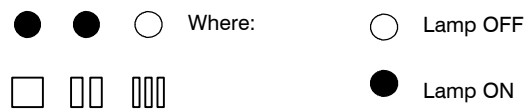

Fig. 9.14
- 6 Press the reset button C repeatedly (2 times) until the lamps E give the indication as in Fig. 9.14 (boiler mode).